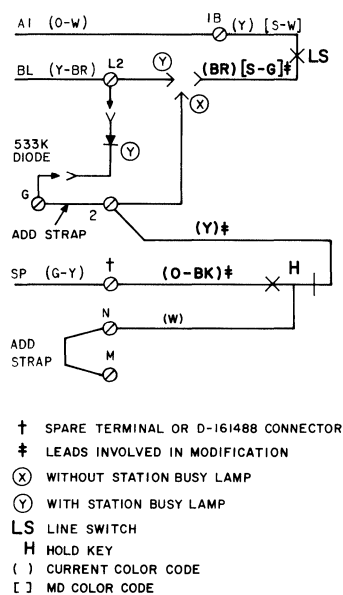

Fig. 2—I Hold Arrangement
- Revise Fig. 2, Optional Features